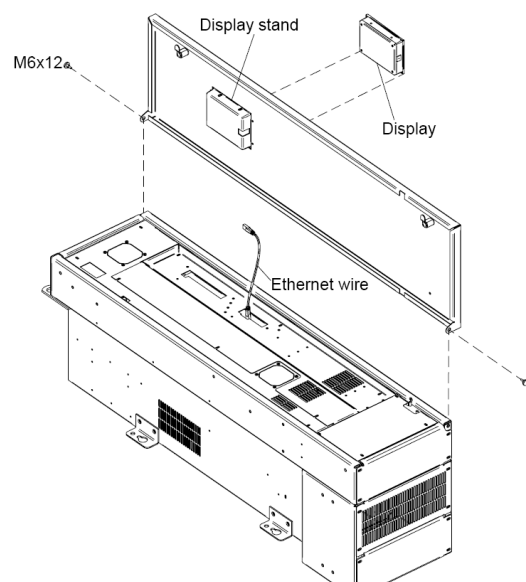

Figure 3.3 Disassembly of the door.
Follow figure 3.3 while reading these instructions:
- 1) Place the door follow the figure 3.3.